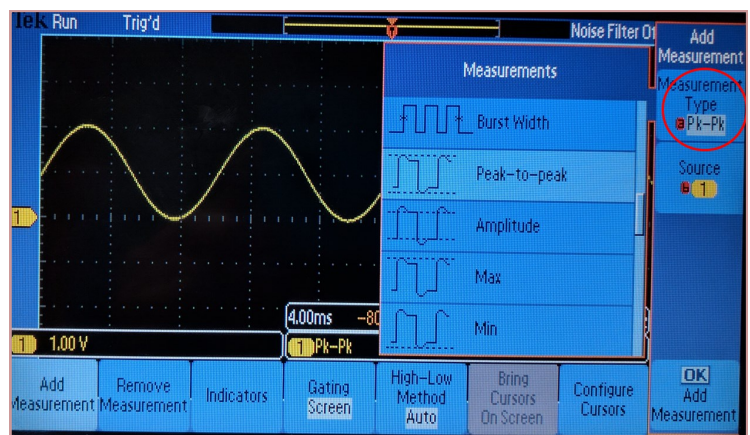

Figure 9. Adding measurements.
4. Add a peak-to-peak measurement to the main display screen. Hit the “measure” button and follow the menus as shown in Fig. 9. If you need additional assistance consult the manual.